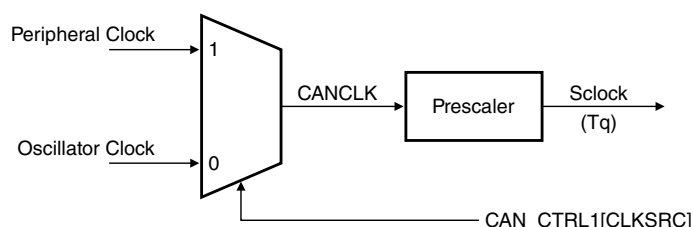

Figure 49-6. CAN engine clocking scheme
- f_{CANCLK} is the Protocol Engine (PE) Clock (see Figure 49-6), in Hz.